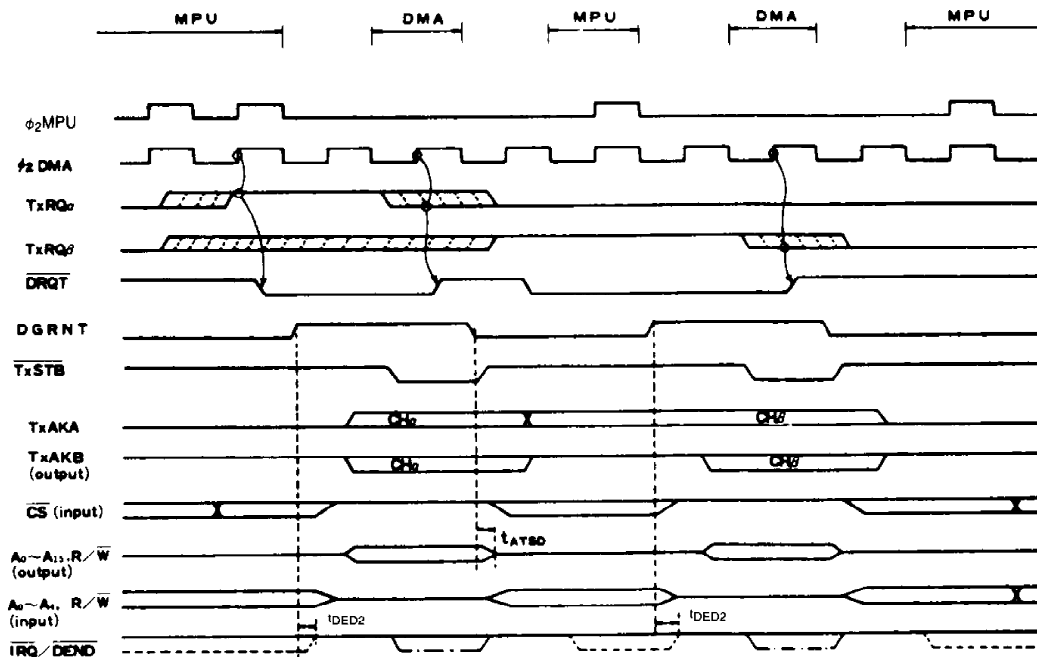

Figure 24 Channel Change (TSC Mode \rightarrow TSC Mode)
- (2) From TSC mode to TSC mode (Fig. 24)
- (3) From HALT mode to TSC mode
- (4) From TSC mode to HALT mode
The timing in the case where the next byte is transferred without changing the channel is shown in Fig. 26. This is the case of HALT → HALT mode. In this case, the bus control returns to MPU, before the next byte is transferred. In the case of TSC → TSC mode, its timing is almost the same as than in Fig. 24, that is, after 1-byte transfer has completed, MPU executes the Instruction Cycle for one clock and then DMAC executes 1-byte transfer again.